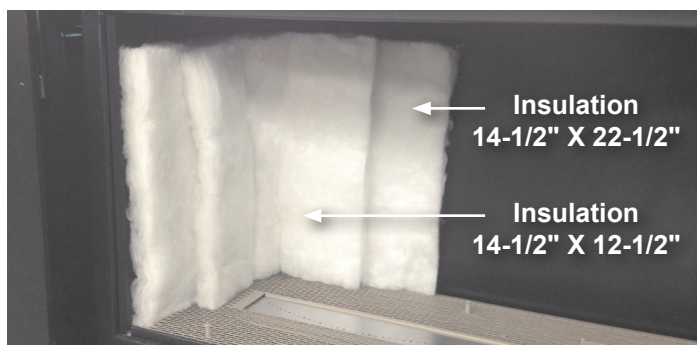

Figure 3
When installing the liner, use extreme care to protect the pilot assembly and igniter probes! See Figure 3.
6. Install the installation pieces against the side walls of the firebox. First place the 14-1/2" X 22-1/2" long insulation pieces against the side wall so that the front edges are about 2 to 3" back from the front edge of the firebox. These pieces of insulation will bend at the rear corners and extend across the back of the firebox a short distance. **See Figure 3.**
7. Add the smaller pieces of insulation against the long pieces of insulation installed in step 6. The front edge should be approximately 5 to 6" behind the front edge of the long insulation. **See Figure 3.**